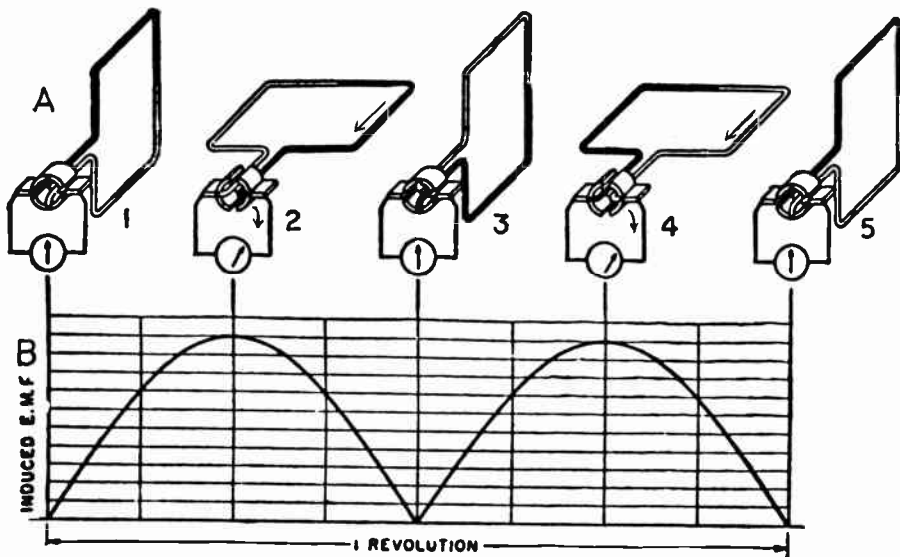
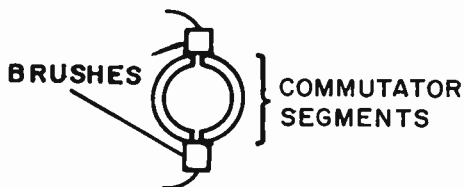

FIG. 5-4. GENERATING A DC VOLTAGE.
FIG. 5-5. SHORTING OUT COMMUTATOR SEGMENTS.
The commutator actually changes the alternating current that is generated by the armature coil into direct current. This is accomplished in the following manner (see Fig. 5-4).
**3 BRUSHES.** As the revolving commutator segments pass the stationary brushes, there are instants when the brushes short out the segments. This is shown in Fig. 5-5. We would normally expect sparking at the brushes when this occurs. However, in the simple generator of Fig. 5-4, the instant of shorting occurs when the armature coil is moving parallel with the field's magnetic lines of force. Thus, no voltage will be generated at this instant and there will be no voltage for the brushes to short out. When the brushes are in this position, we say that the brushes are in a "neutral" position. In this